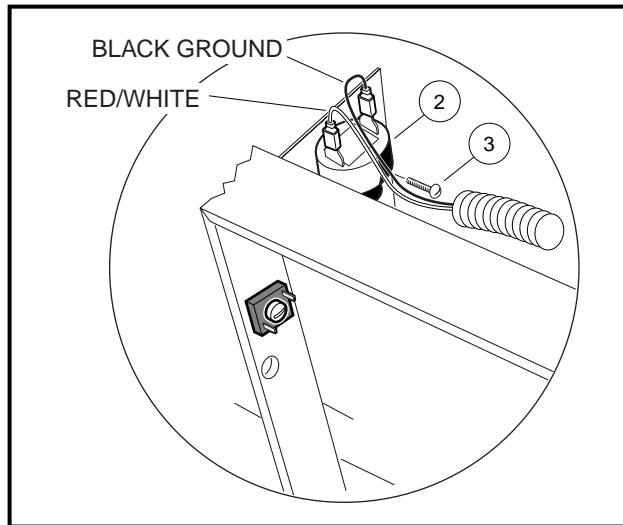

Figure 12-22 Front Reverse Warning Buzzer
3. Disconnect the wires from the reverse warning buzzer (2) (**Figure 12-22, Page 12-21**).
4. Remove the screw (3) and nut (4) securing the buzzer to the vertical frame support.
1. Install the screw (3) through the buzzer (2) bracket tab and secure with nut (4). Tighten to 14 in-lb (1.6 N·m) (**Figure 12-22, Page 12-21**).